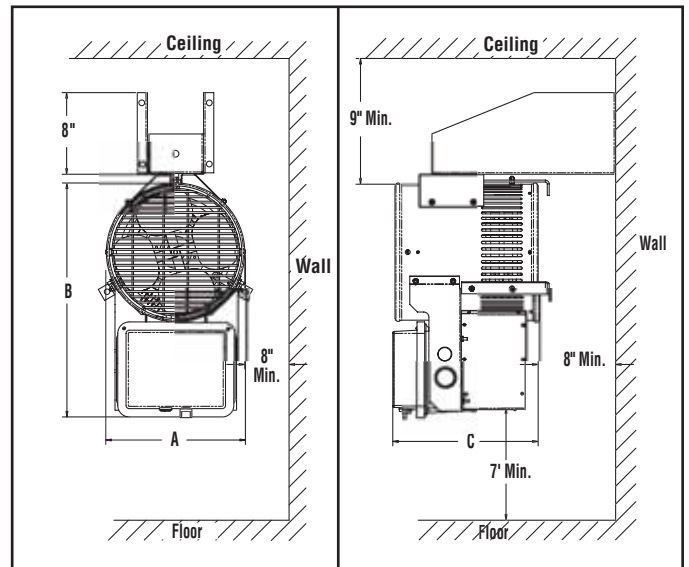

Figure 3
- B. For ceiling heights of 12 feet or less, maximum mounting height is determined by use of the mounting bracket offered for these heaters. Minimum spacing to ceiling is 9". (See Figure 3.)
- C. In either case the minimum mounting height is 7 feet from floor to bottom of heater. (Figure 3)
2. Spacing to adjacent walls (See Figure 3).